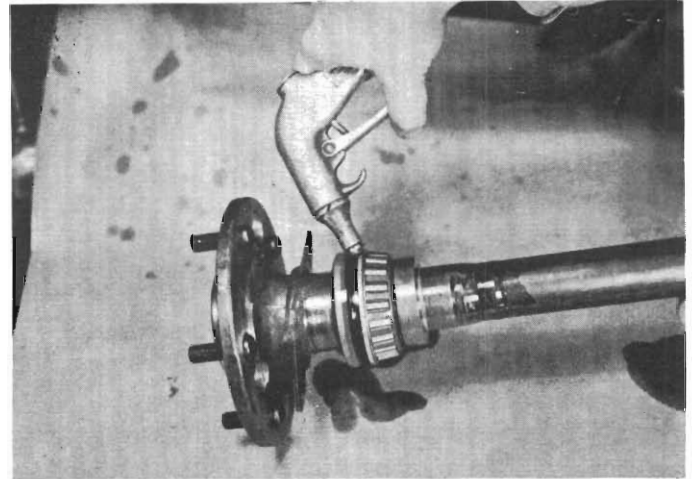

Fig. 5 - Blowing bearing cone and seal clean.
(2) Blow the bearing dry but *do not spin* the cone as scoring may occur, refer Fig. 5 then inspect cone and cup for damage.
(3) Clean out the cup and seal recess area in the axle housing and examine for damage.
(4) Inspect the seal "fit" on shaft and seal condition — if unsatisfactory the seal must be replaced — refer to Unit Bearing Replacement.